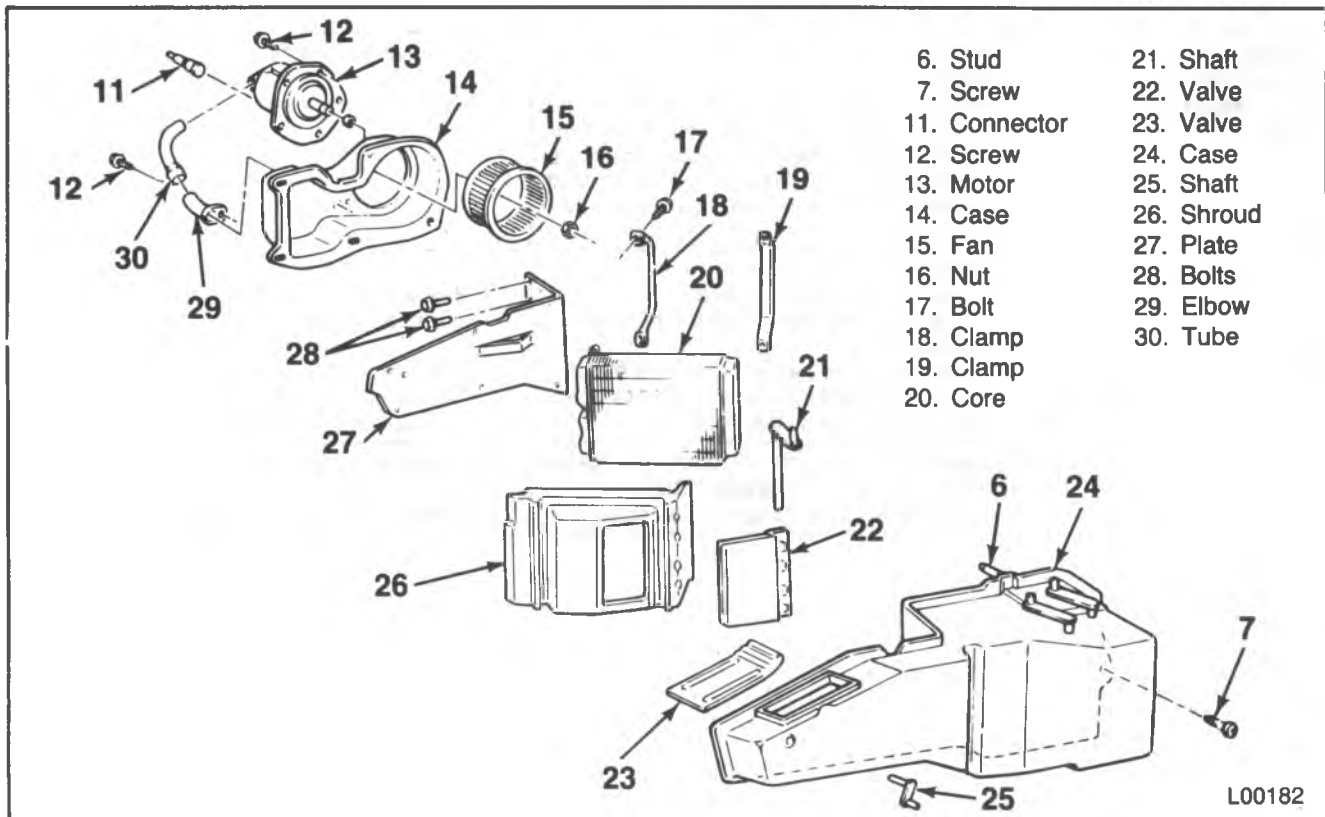

Figure 6 — Blower Motor Assembly — Component View — R/V
4. Motor (13) and fan (15) assembly (figure 6).
5. Shaft nut (16).
6. Fan (15) from the motor (13).
↔ Remove or Disconnect (Figures 6 through 13)
2. Heater hoses (40 and 41) at the core tubes (20) (figures 6, 7, 8, 9 and 10).
3. Screws and nuts (8) from the studs (6) that project into the engine compartment (figures 6 and 11).
↔ Install or Connect (Figures 6 through 13)